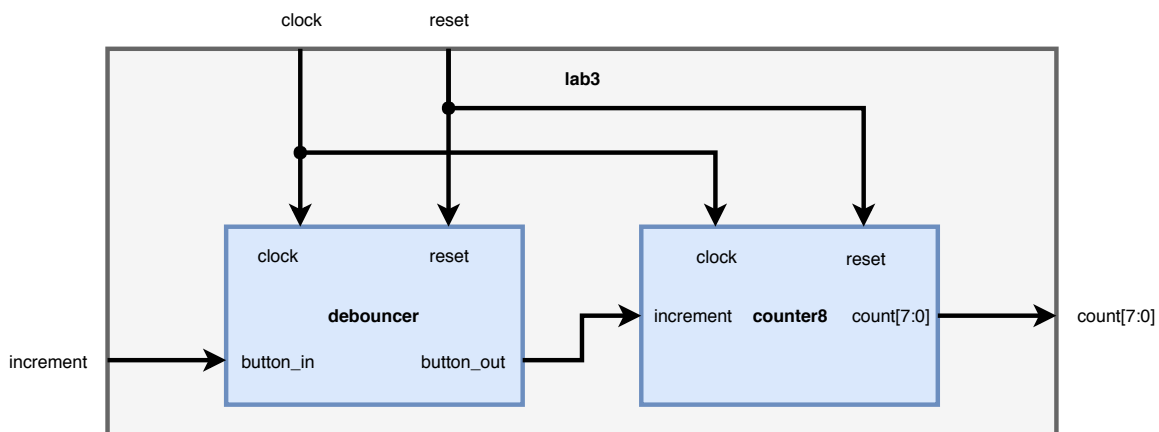

Figure 2: Lab 3 top level module.
3. lab3 - The Top Level module where you would instantiate the debouncer and counter8 modules. Connect the modules as seen in Figure 2. You must demonstrate the working lab3 module on the FPGA to the TA. Refer to Lab B and the schematic capture tutorial for directions on implementing the design on the FPGA. The pin name for the FPGA clock input is designated as v10.